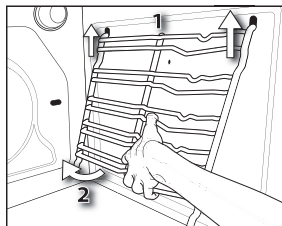

Fig. 5
2. To remove the grilles, lift them up (1) and turn them (2) as shown in Fig. 5.